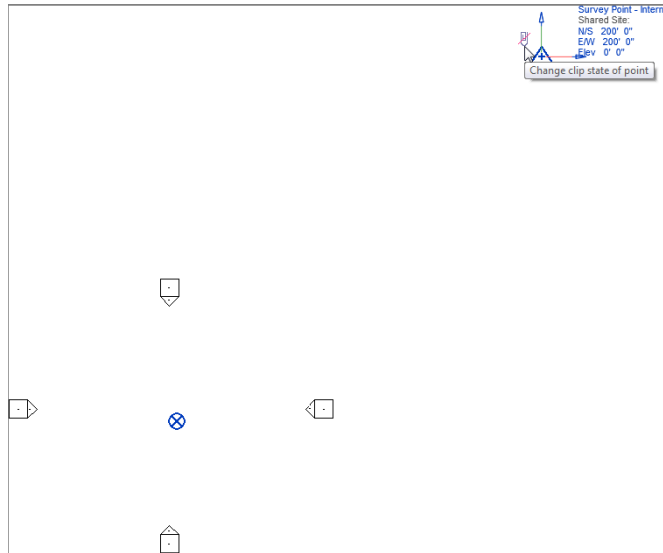

FIGURE 18.26: Altering the survey point
6. Deselect the blue paperclip, as shown in Figure 18.26.
9. Click the Survey Point - Internal link (see Figure 18.26).